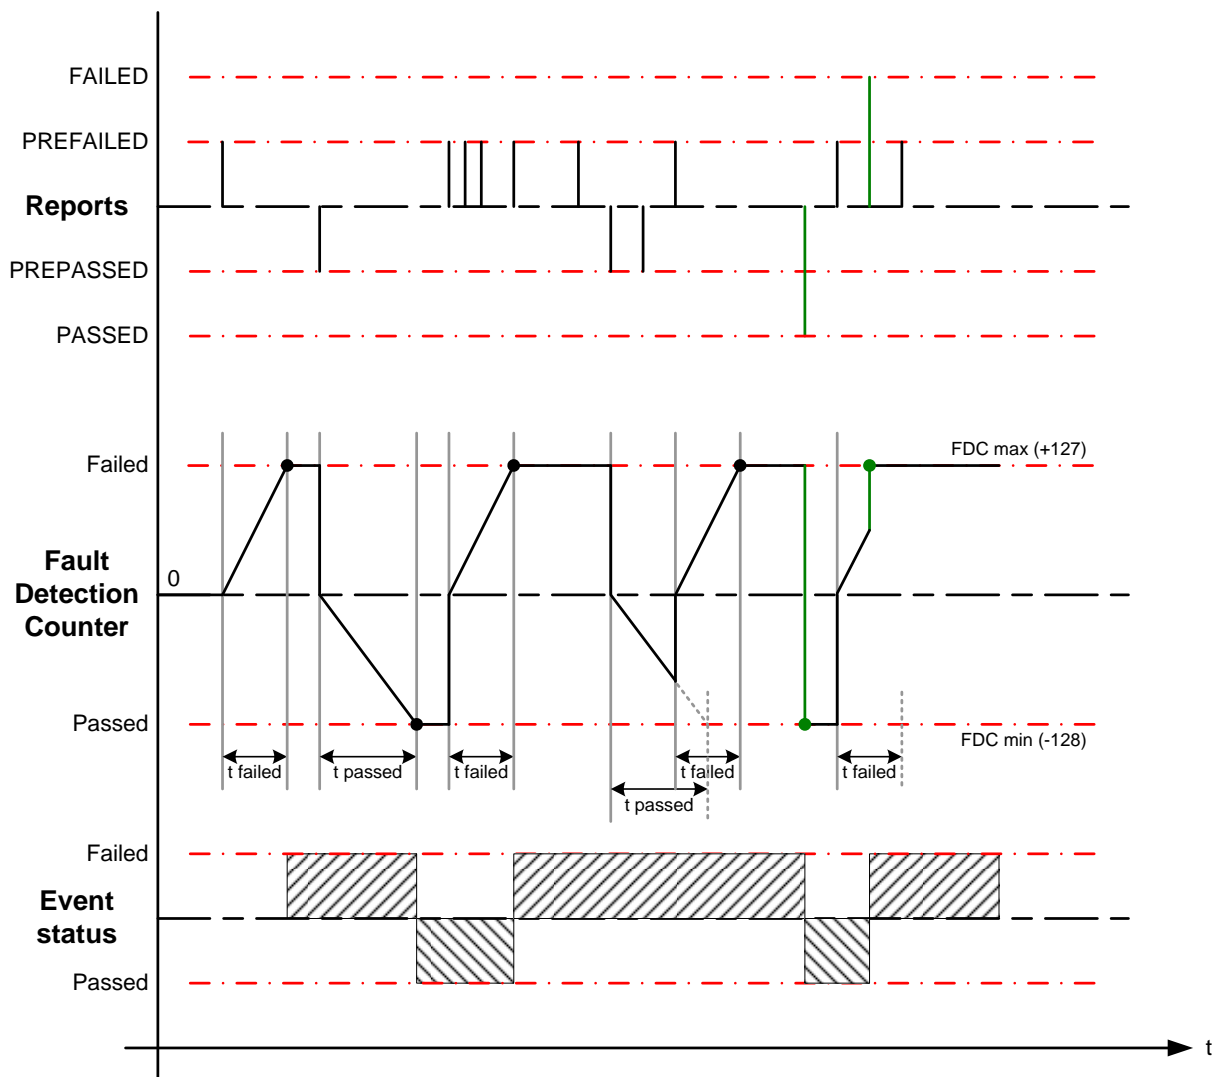

Figure 30 Example of time based debouncing
**[Dem427]** 「The Dem module shall calculate the fault detection counter (-128 ...+127 according to UDS) based on the value and range of the internal debounce timer, to map the internal timer values linearly to the external values (refer to Figure 30).」()